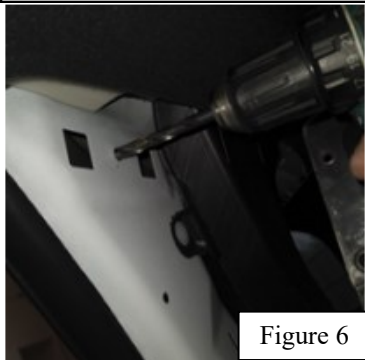

Figure 6
5. Using a 5/16" drill bit increases the hole size on both pillars as shown on image below. **Figure 6**.